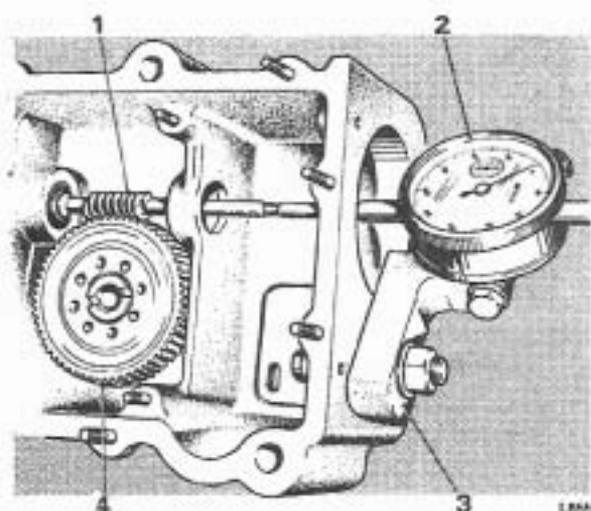

FIG. T149 CHECKING WORM SHAFT END FLOAT
5. Mount a dial test indicator so that the plunger rests on the end of the worm shaft (see *Fig. T149*).